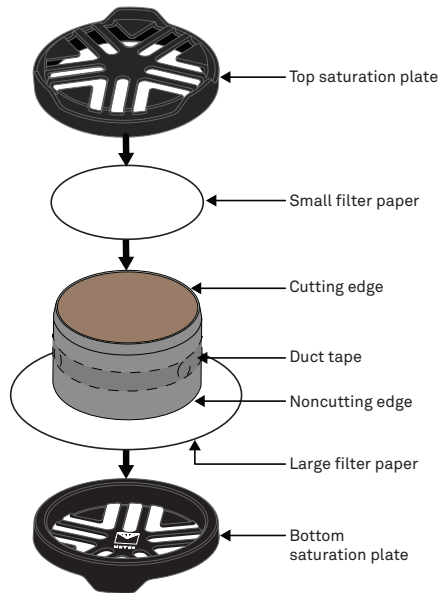

Figure 15 Large filter paper
5. Place the noncutting side of the sample ring with filter paper onto a LABROS saturation plate (Figure 15).